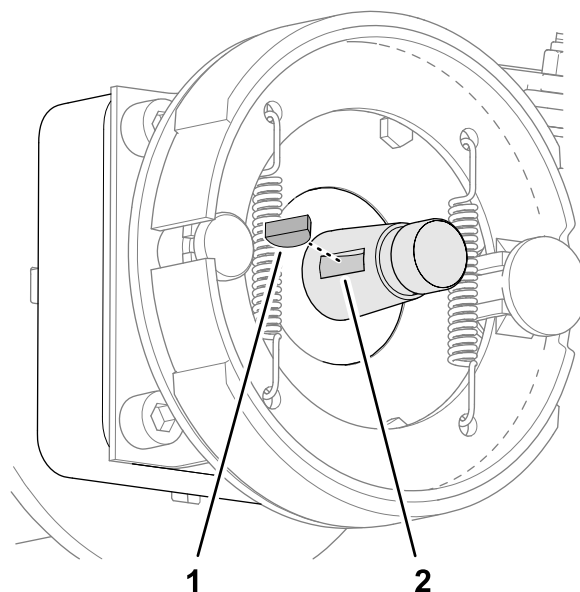

Figure 69
2. Insert the woodruff key into the groove of the wheel-motor shaft (Figure 69).